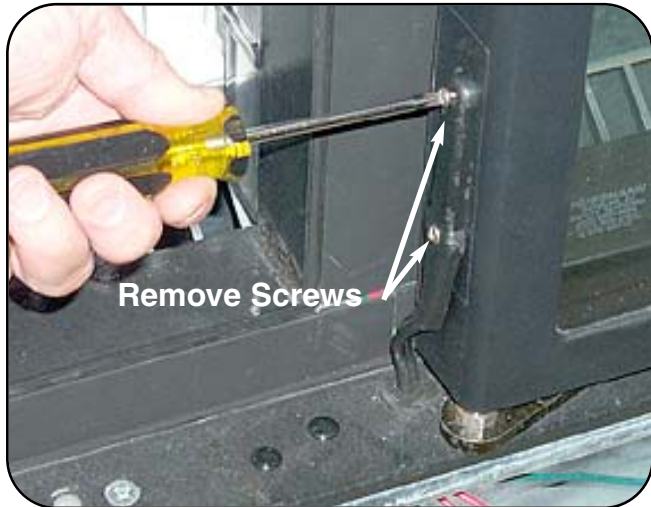

Figure 4. Removing Screws to Plug
2. Unscrew the two #6 Phillips screws that hold the black plug into the side of the door as shown in Figure 4. Remove the plug from the door.